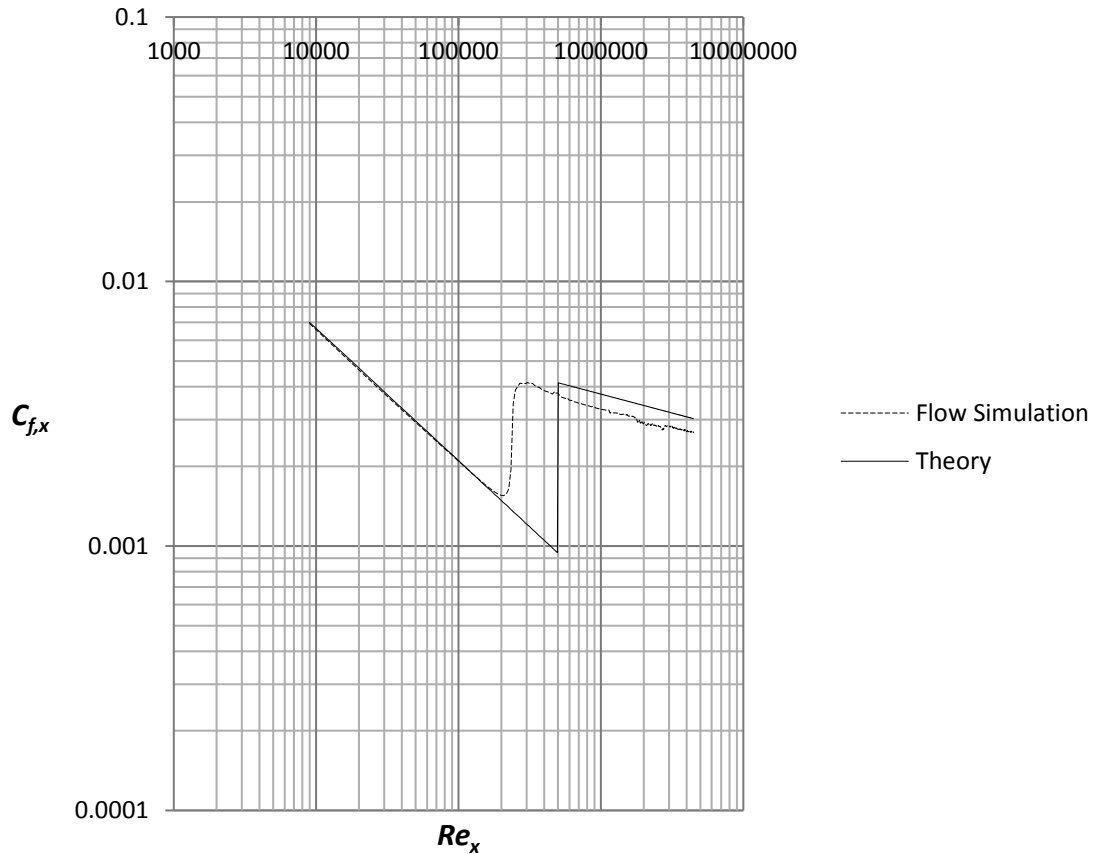

Figure 2.32 Flow Simulation (dashed line) and theoretical turbulent friction coefficients
31. Place the file “**graph 2.32**” on the desktop. Repeat step **24** and choose the sketch  $x = 0 - 0.9 \text{ m}$ , uncheck the box for **Velocity (X)** and check the box for **Shear Stress**. Rename the xy-plot to **Local Friction Coefficient for Laminar and Turbulent Boundary Layer**. An Excel file will open with figure 2.32. Figure 2.32 is showing the Flow Simulation is able to capture the local friction coefficient in the laminar region in the Reynolds number range 10,000 – 200,000. At  $Re = 200,000$  there is an abrupt increase in the friction coefficient caused by laminar to turbulent transition. In the turbulent region the friction coefficient is decreasing again but the local friction coefficient from Flow Simulation is significantly lower than empirical data.